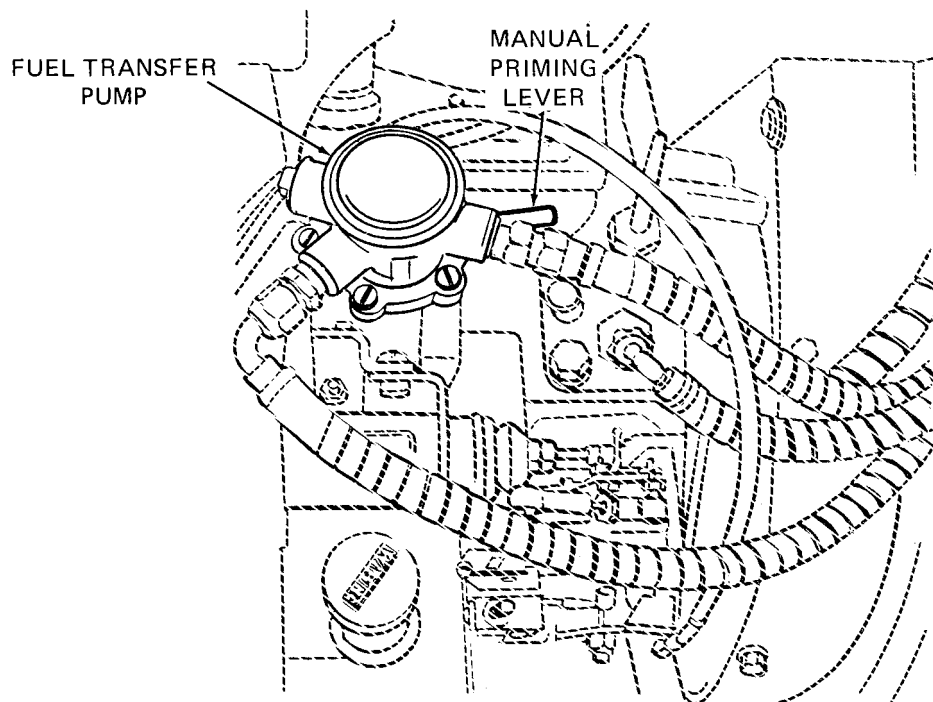

Figure 2-5. Manual Priming Lever and Fuel Transfer Pump Connection.
- If fuel filter has been removed for any reason, or if bleed screw on top of filter was opened to drain the filter, be sure bleed screw is tight and use manual priming lever on fuel transfer pump to prime fuel system (see Figure 2-5) .